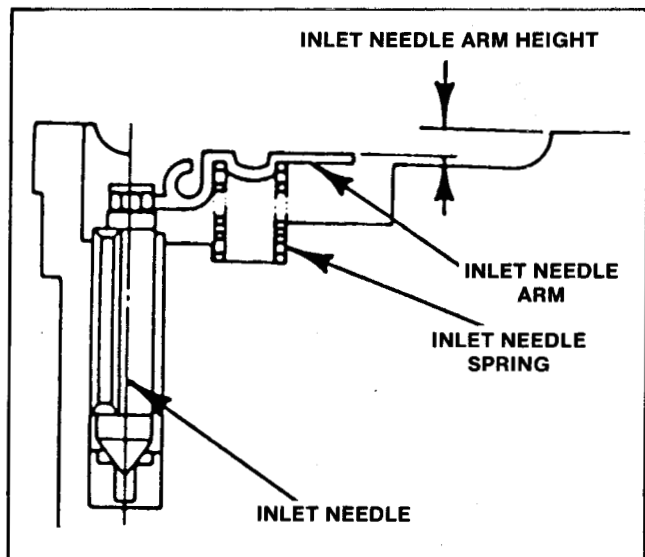

Figure 29
8. Using the carburetor body surface as reference, check the inlet valve height. Inlet valve height can be checked with a height gauge or with an accurate depth gauge. See Fig. 29.